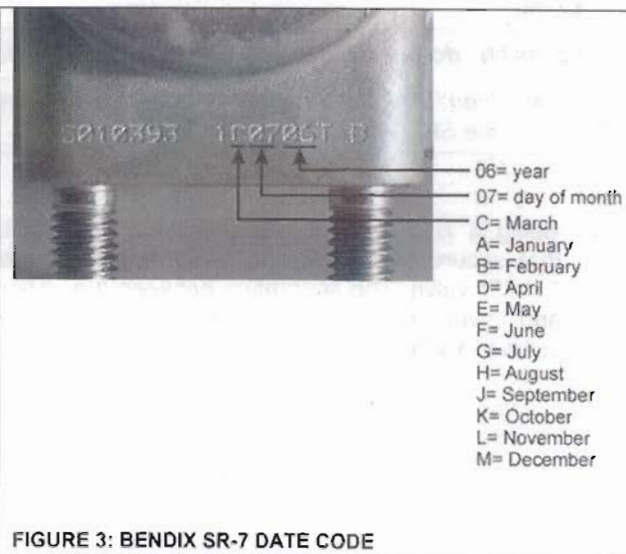

FIGURE 3: BENDIX SR-7 DATE CODE
3. Check the date code found on the SR-7 valve body (see figure 3). If the SR-7 valve was manufactured between **November 4, 2005 and April 17, 2007(inclusive)**, it is necessary to retrofit the internal check valve cartridge as described in Part 2.